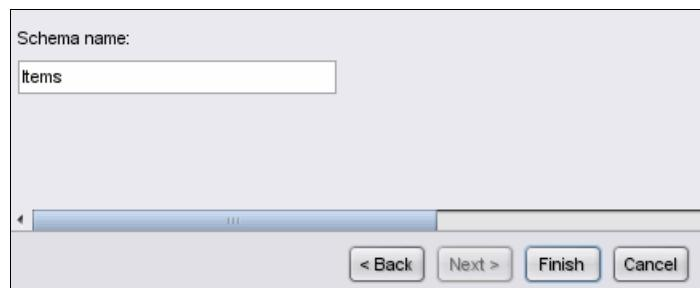

Figure 12-28 Naming the items flat file schema
7. Name the schema that you are creating **Items**, and click **Finish**. Refer to Figure 12-28.